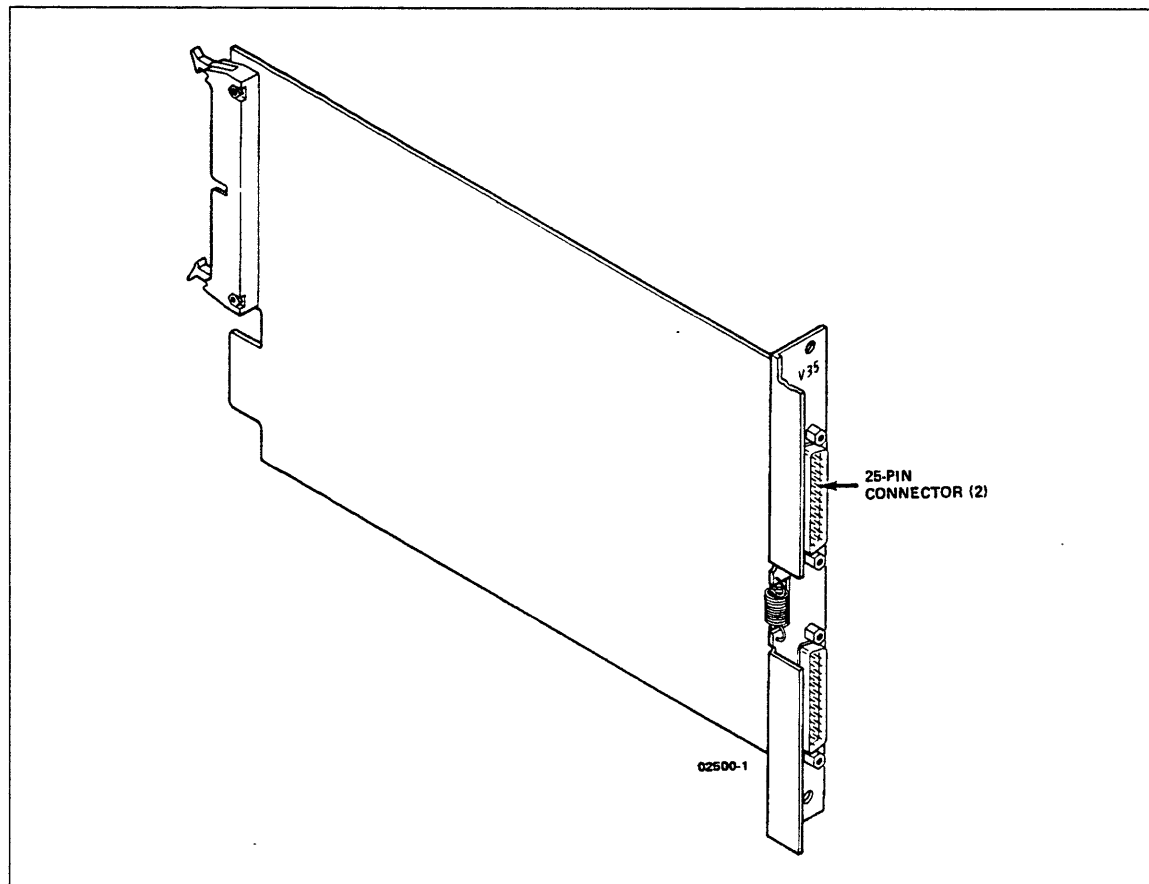

Figure 3-34. V.35 LIM Board
2. Unpack LIM boards (shown in figure 3-34), equipment labels, and FCO labels.